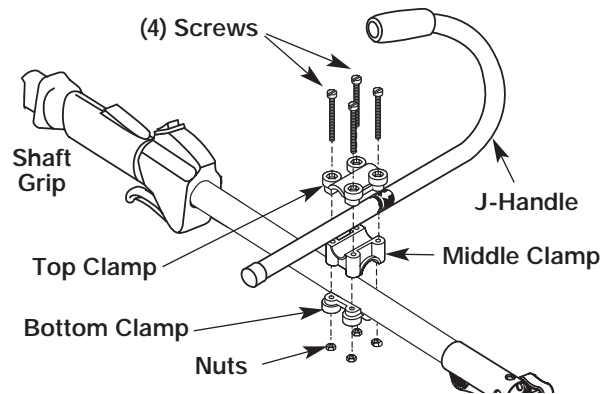

Fig. 1
2. Hold the bottom clamp to the underside of the shaft housing, about 7-8" from the shaft grip (Fig. 1).
3. Place the J-handle between the top and middle clamp pieces (Fig. 1).
4. While holding the three pieces together, install the four (4) screws through the top clamp and into middle clamp.